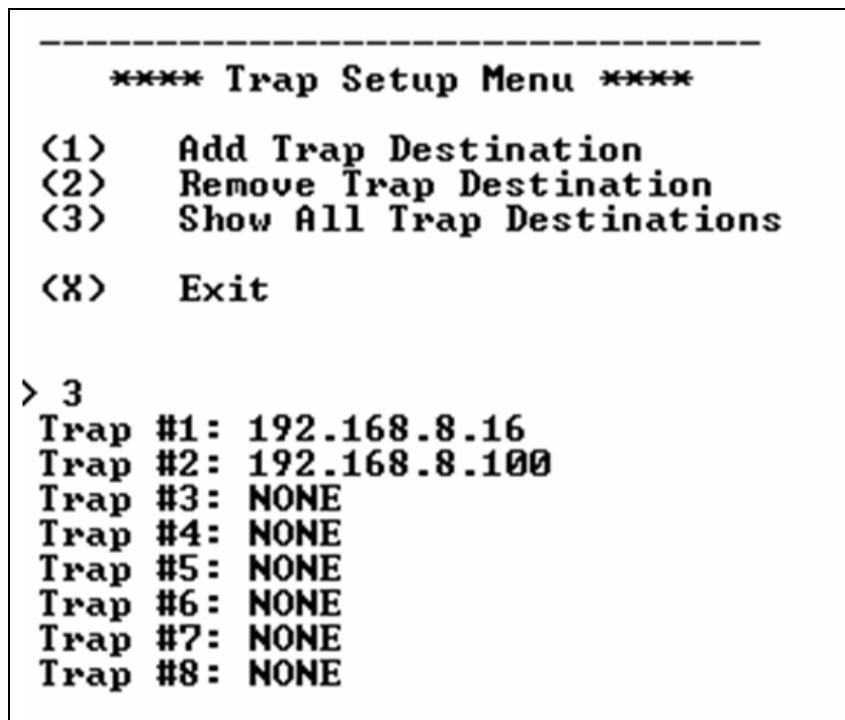

Figure 6-4: Show All Trap Destinations
16. The user can view the trap destinations assigned to the card by selecting option <3> *Show All Trap Destinations*. A list of trap destinations will be displayed as shown in Figure 6-4. To exit the *Trap Setup Menu*, select the <x> *Exit* and you will return to the Main Menu.